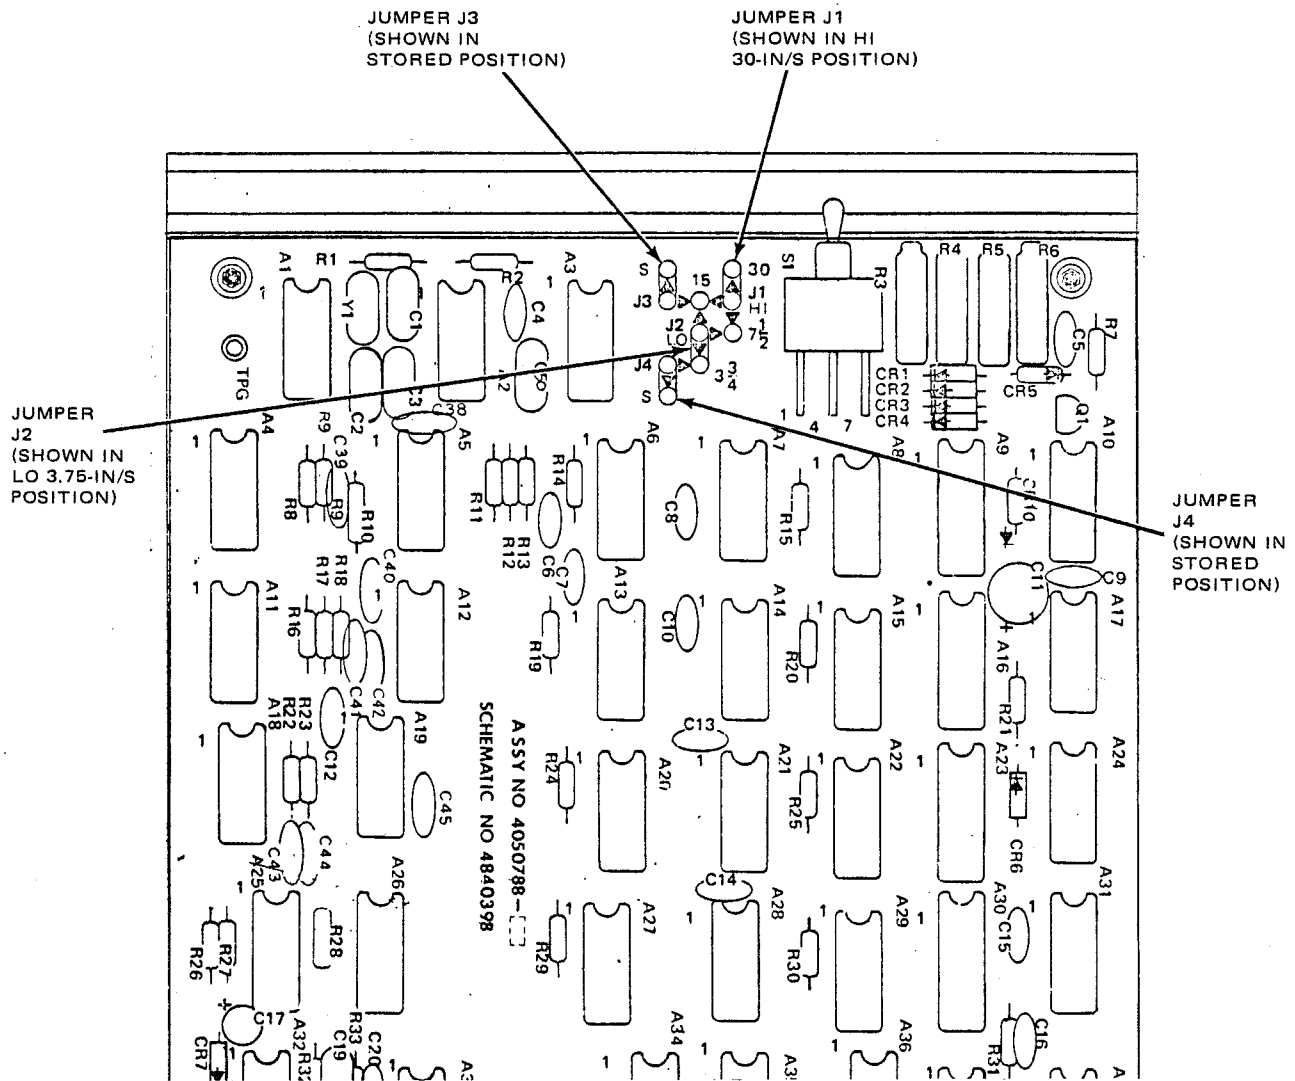

Figure 3. Speed Selection Jumpers, Audio Control PWA No. 5.
3. Position HI speed jumper J1 to the desired high speed 30, 15, or 7.5-in/s position (Figure 3).
3. Position jumper J1 to the 30-in/s position (Figure 3).